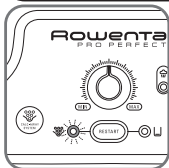

fig.13
- The "Calc-Away System" orange indicator flashes - **fig. 13** : the collector needs to be rinsed.